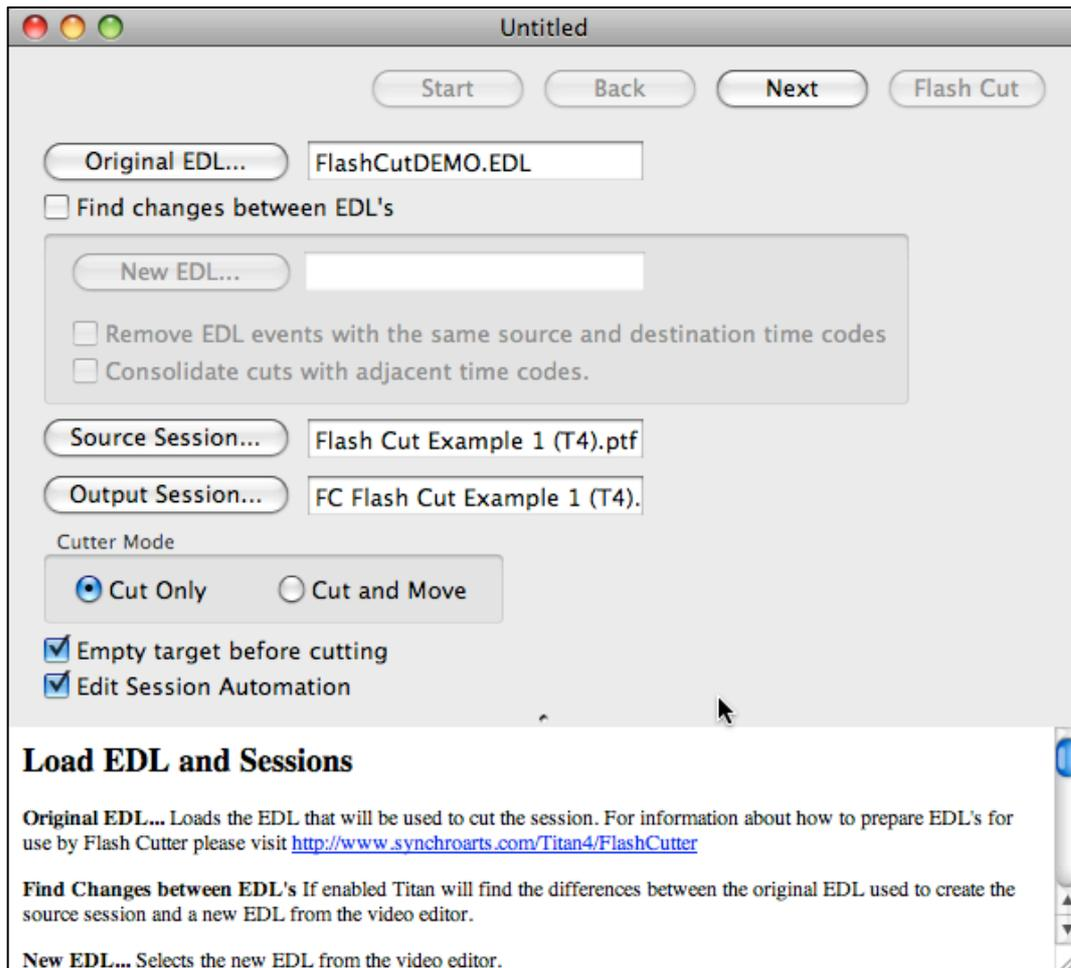

Figure 28 Load EDL window after EDLs and session loaded, showing names of files concerned
- This tutorial concentrates on using Flash Cutter in Cut-only mode. (The difference between the modes is explained at the start of this chapter and in Titan's integral Help window.) To select Cut Only Mode click **Cut Only**. The Flash Cutter window should now look as shown in Figure 28.